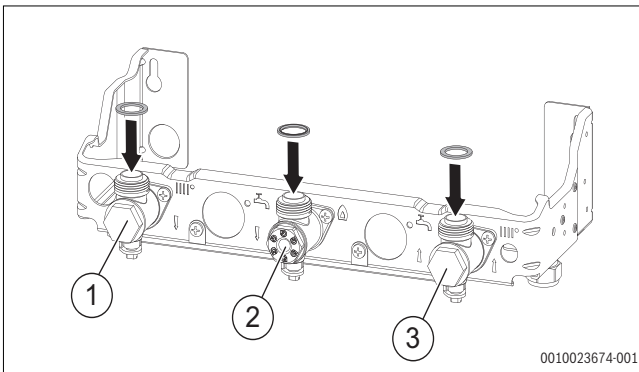
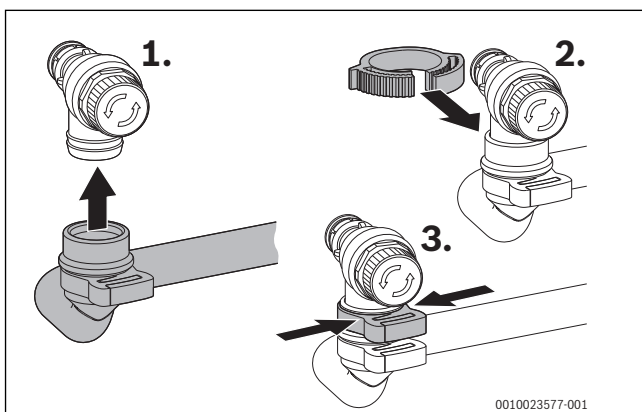

Fig. 45 Fitting the sealing washers
Fig. 48 Fitting the pipe on the (heating) pressure relief valve
3. Ensure that 3 black plastic ratchet clips are securely fixed and tightened. Ratchet clip number 4 must be fitted but left loose until the boiler is hung and connection to the PRV is made (→ Fig. 45 and Fig. 48).